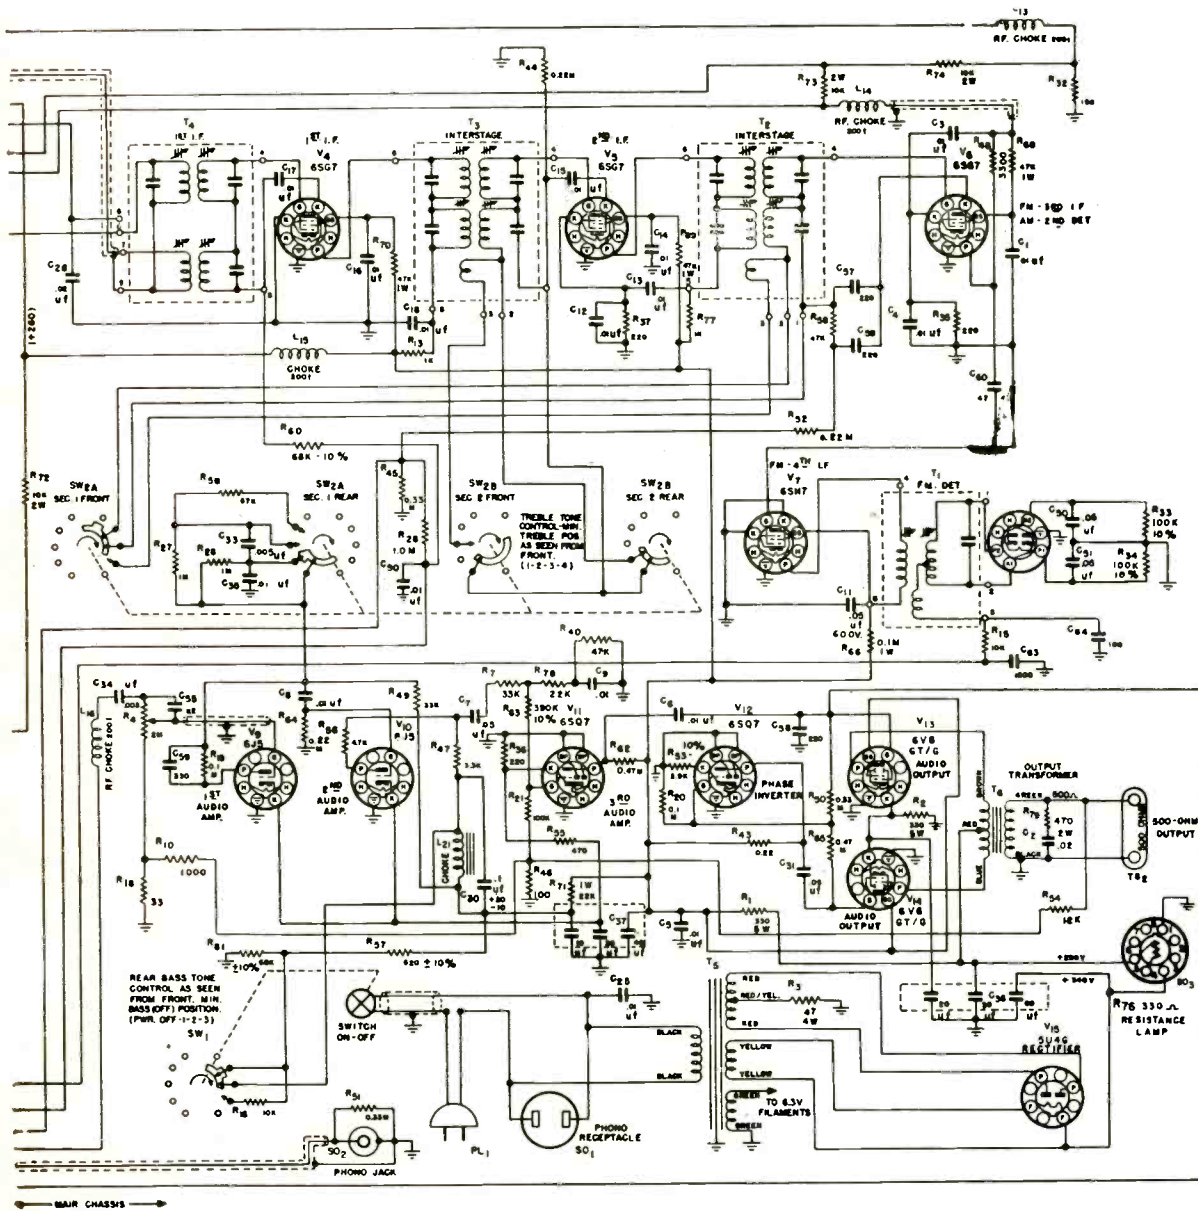

Fig. 2. Complete circuit diagram of Hallicrafter Model S-41 High Quality Tuner
In the schematic (Fig. 2) the antenna coils are *L-10* for FM; *L-5* for shortwave and *L-2* for the usual AM broadcasts. Through the switching system these coils find proper capacitors across them for the various tuning bands. Following the 6BA6 r-f entrance stage three other coils serve as follows: *L-9* FM mixer coil; *L-1* shortwave mixer coil; *L-6* mixer coil for AM broadcast band. These are set up in triplicate and capacitor-tuned to resonance with their corresponding input counterparts. Following the schematic we see that the oscillator coils are; *L-8* for FM, *L-4* for shortwave and *L-7* for the broadcast (AM) band.
In this ratio detector the two diodes are connected in a closed series circuit which includes the two resistors *R-33* & *R-34* and the main secondary winding of transformer *T-1* thereby offering conductance throughout to a given r-f half cycle. So connected, the twin diodes aid each other. The voltage across capacitors *C-50* and *C-51* is equal to the sum of the diode voltages rather than to their difference as with discriminators. Yet for an instantaneous carrier frequency the voltage across the two diodes differs. As a direct result the voltages across capacitors *C-50* and *C-51* differ proportionately thereto, one capacitor having the larger of the two voltages at carrier frequencies below the intermediate frequency and the smaller at frequencies above the i-f. Finally, the ratio of these voltages varies at an audio rate and the resultant linear signal is applied to further audio amplification. The network to the right of the 6AL5 (*Fig. 2*) completes circuits permitting that tube to function as above. The third or tertiary winding of transformer *T-1*, tapped from the midpoint of its main secondary and inductively coupled to its primary, is returned through capacitor *C-64* and ground to the midpoint between resistors *R-33* and *R-34* also grounded. Rectified signals within this third winding are fed through resistor *R-15* and *SW-3A* section of the switching system to the volume control *R-4* and thence to the grid of the first audio 6J5 stage (*V-9*).
It is customary to include the tube that drives each of the two pushpull tubes when referring to a phase inverter. However to stick to the letter of this manufacturer's schematic, as divulged in *Fig. 2*, we will refer to 6SQ7 (*V-11*) as the third audio amplifier stage which drives *V-13* the upper (beam power tube) 6V6 of the pushpull stage. It is correct to so handle the subject. We all know by now that the grids of the two push-pull tubes must be excited 180 degrees out of phase. It is further known that in a single-ended amplifier such is